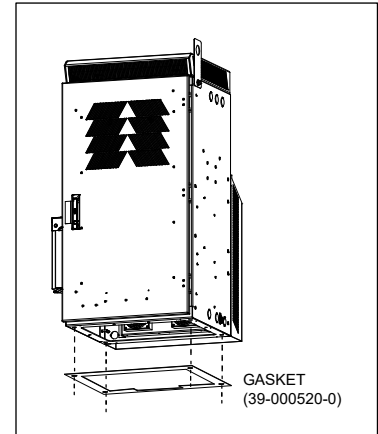

Figure 5 Gasket Installation
3. Install the gasket by positioning it on the pad so that it is underneath the bottom of the CUBE when the cabinet is installed. Line up the gasket so that the cutouts are in proper position around the conduit opening and the bolt holes as shown in Figure 5.